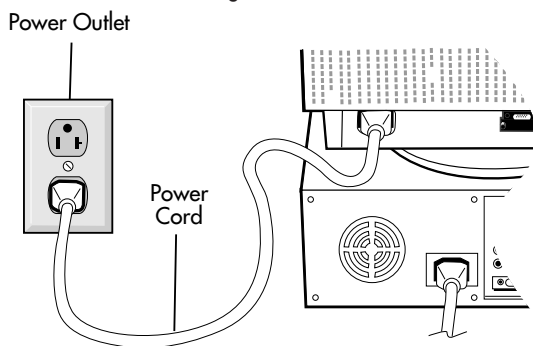

Figure C.1
5. Connect one end of the power cord to the MultiSync A Series monitor and the other end to the power outlet (Figure C.1).